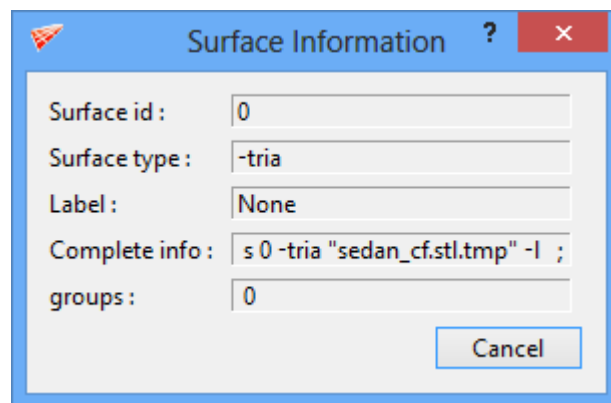

Figure 3.62: Surface information
- **Surface info** shows the information on surfaces such as id, type, label, position and group number to which it is grouped, as shown in figure 3.62.